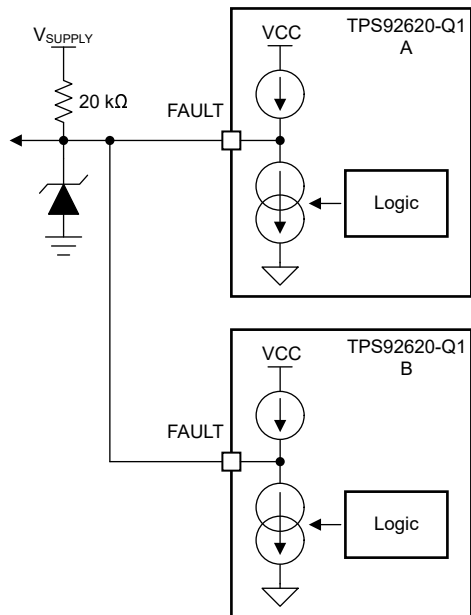
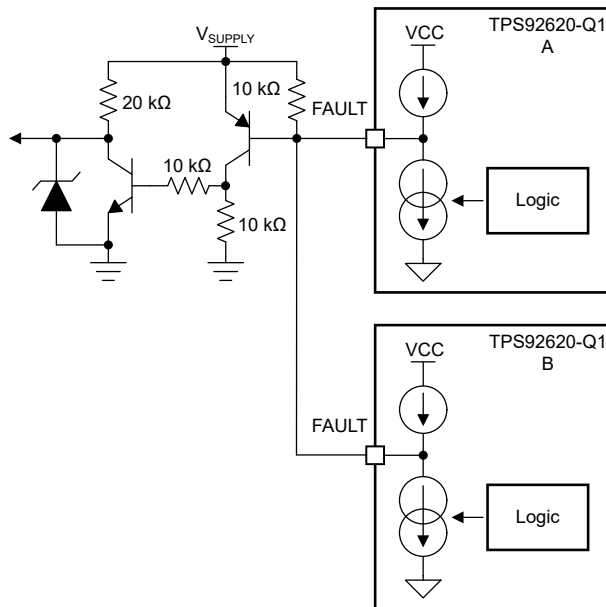

图 6-6. FAULT Bus for One-Fails-All-Fail Application
图 6-7. FAULT Bus for One-Fails-Others-On Application
Based on this feature, the TPS92620-Q1 device is able to construct a **FAULT** bus by tying **FAULT** pins from multiple TPS92620-Q1 devices to achieve one-fails-all-fail function as 图 6-6 showing. The lower side TPS92620-Q1 (B) detects any kind of LED fault and pulls low the **FAULT** pin. The low voltage on **FAULT** pin is detected by upper side TPS92620-Q1 (A) because the **FAULT** pins are connected of two devices. The upper side TPS92620-Q1 (A) turns off all output current for each channel as a result. If the **FAULT** pins of each TPS92620-Q1 are all connected to drive the base of an external PNP transistor as illustrated in 图 6-7, the one-fails - all-fail function is disabled and only the faulty channel device is turned off.